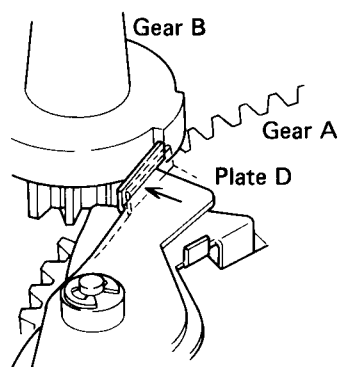

Fig. 4-7 Auto-return detection 4
8. The end of plate D contacts the protruding section of gear B (Fig. 4-7).